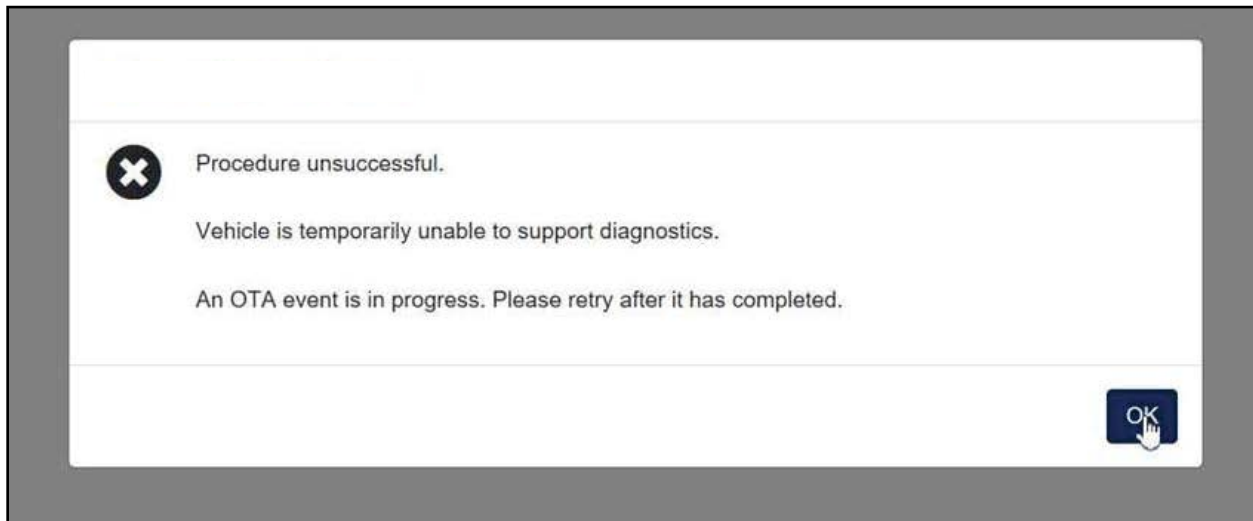

FIGURE 7
30. Was a procedure unsuccessful screen shown? See Figure 7.